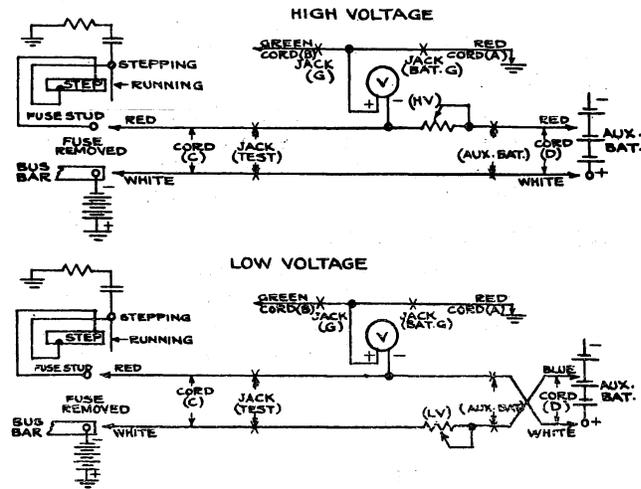

Fig. 3
4.3 Fig. 3 illustrates the fuse application of the test set.